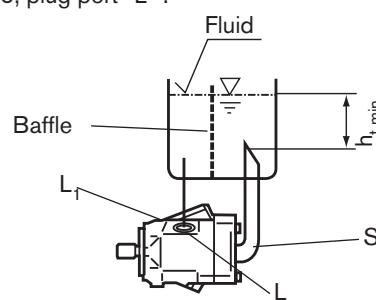

Fig. 5
b) Mounting below the reservoir: pipe ports " L_1 " and " S " acc. to fig. 5, plug port " L ".